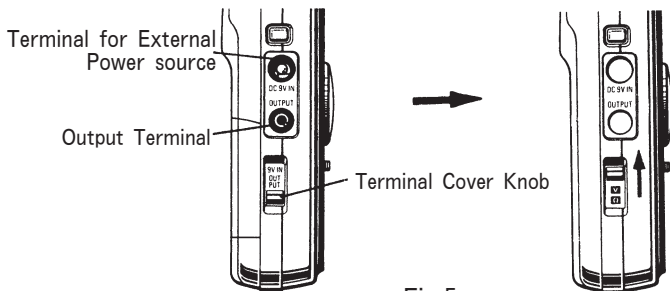

Fig.5
- (1) Set the Range Switch to 200Ω position.
- (2) Slide up the Terminal Cover Knob to uncover the **COMMON** Terminal. (See Fig.5)